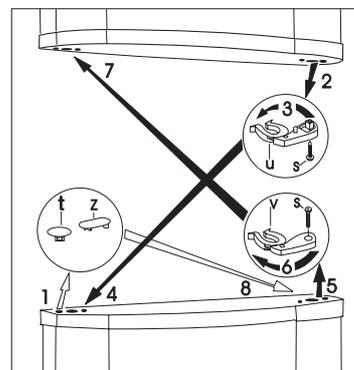

fig. 3.
12. Remove the (t, z) plugs from both doors. (fig. 3)